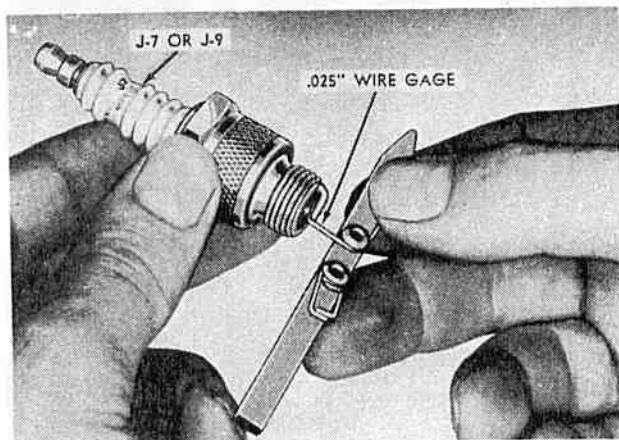

FIG. 109
**CHAMPION AND COMMANDER** Maximum engine efficiency requires that the spark plugs be in excellent condition. Champion J9 or J7 (14 mm.) spark plugs are used in both models. (The J7 spark plug is identical with the J9 plug formerly used.) Spark plugs should be cleaned and respaced at 5,000 mile (8.046 km.) intervals. An electrode gap of .025" (0.64 mm.) is recommended. It is preferred that this gap be checked with a wire gage (see Fig. 109). After cleaning and resspacing, test the spark plugs under pressure. For peak engine efficiency, spark plugs should be replaced every 10,000 miles (16.090 km.).